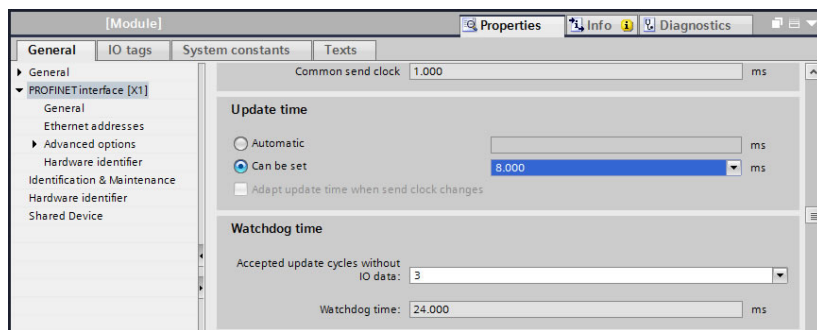

Figure 87: Set I/O Cycle Update Time
3. Set the I/O cycle **Update time** and **Watchdog time** as shown in Figure 87.